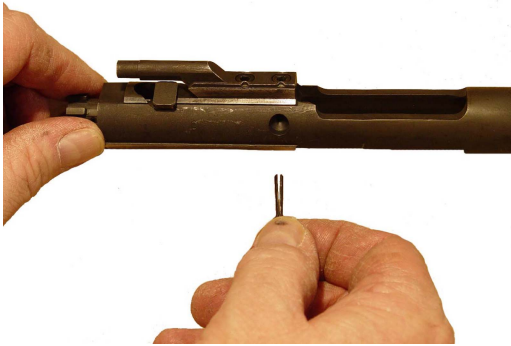

Figure 3-25. Install Firing Pin Retaining Pin
- j. Replace firing pin retaining pin. Refer to Figure 3-25.